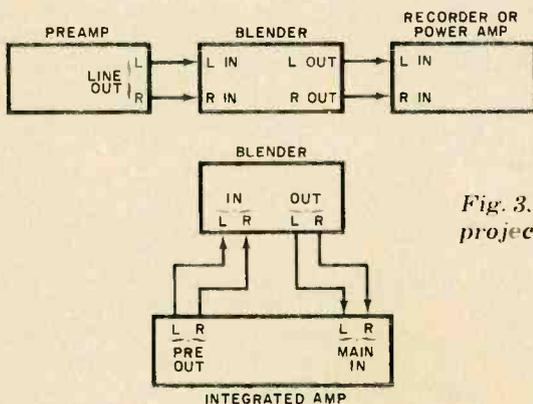

Fig. 3. Connecting the project to your system.
**Use.** The blender should be connected to your audio system as shown in Fig. 3 by means of shielded patch cords terminated with suitable connectors. As mentioned earlier, it can be used to make listening through stereo headphones more enjoyable. The project also allows home recordists to introduce interesting special effects when taping program material. Imaginative users will no doubt find other applications. ♦